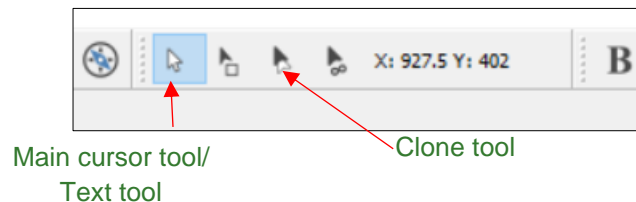

Figure 67: Clone Tool and Main Cursor Tools Location in IDEAS Toolbar
1. Select the clone layer tool () from the toolbar. (See Figure 67 below).